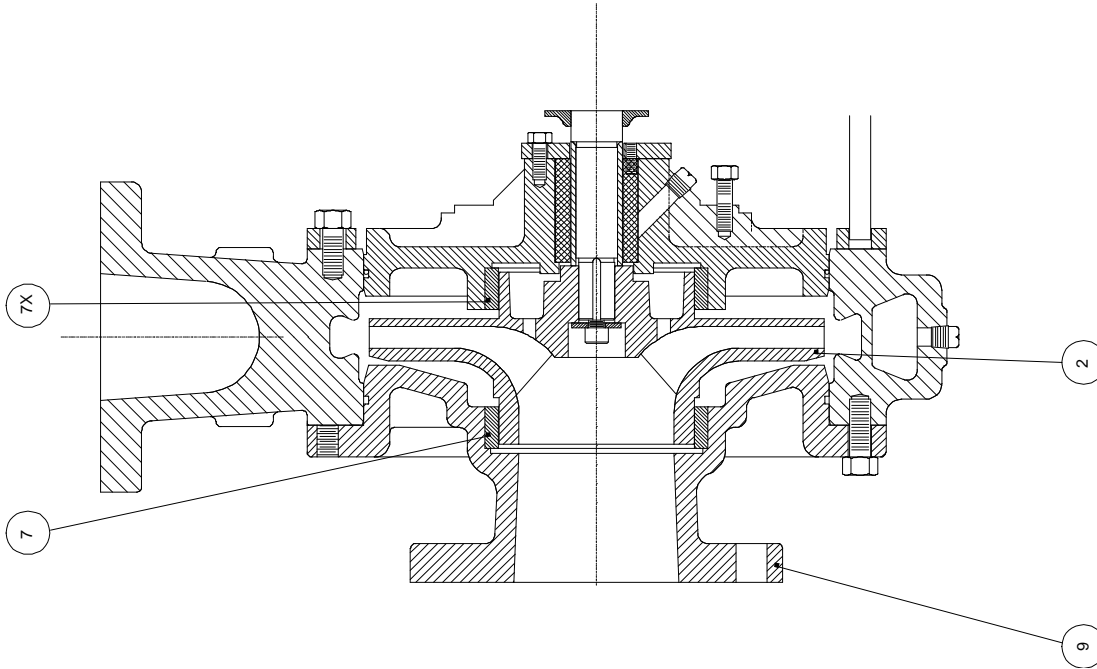

Figure 6. Optional Wear Rings
2. Disconnect coupling (42).
3. Once pump is in the vertical position, adjust bearing cap (37) upward or downward until impeller rubs on suction head.
4. Place a dial indicator on the end of shaft (6).
5. Tighten bearing cap (37) until indicator reads between .010 and .015 inch.
6. Turn shaft (6) by hand to ensure impeller is not rubbing.
If your pump is equipped with an enclosed impeller, it may have an optional, replaceable wear ring (7) in the suction cover (9) or backhead (11). If your pump is equipped with the optional wear ring (7), use the following instructions and Figure 6 for wear ring replacement.